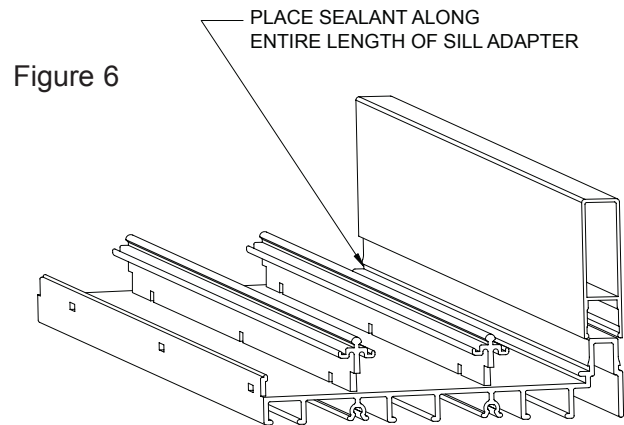

Figure 7
3. Assemble main frame using supplied # 8 x 1" phillips pan head screws at each assembly hole. (See Figure 7 & 8)